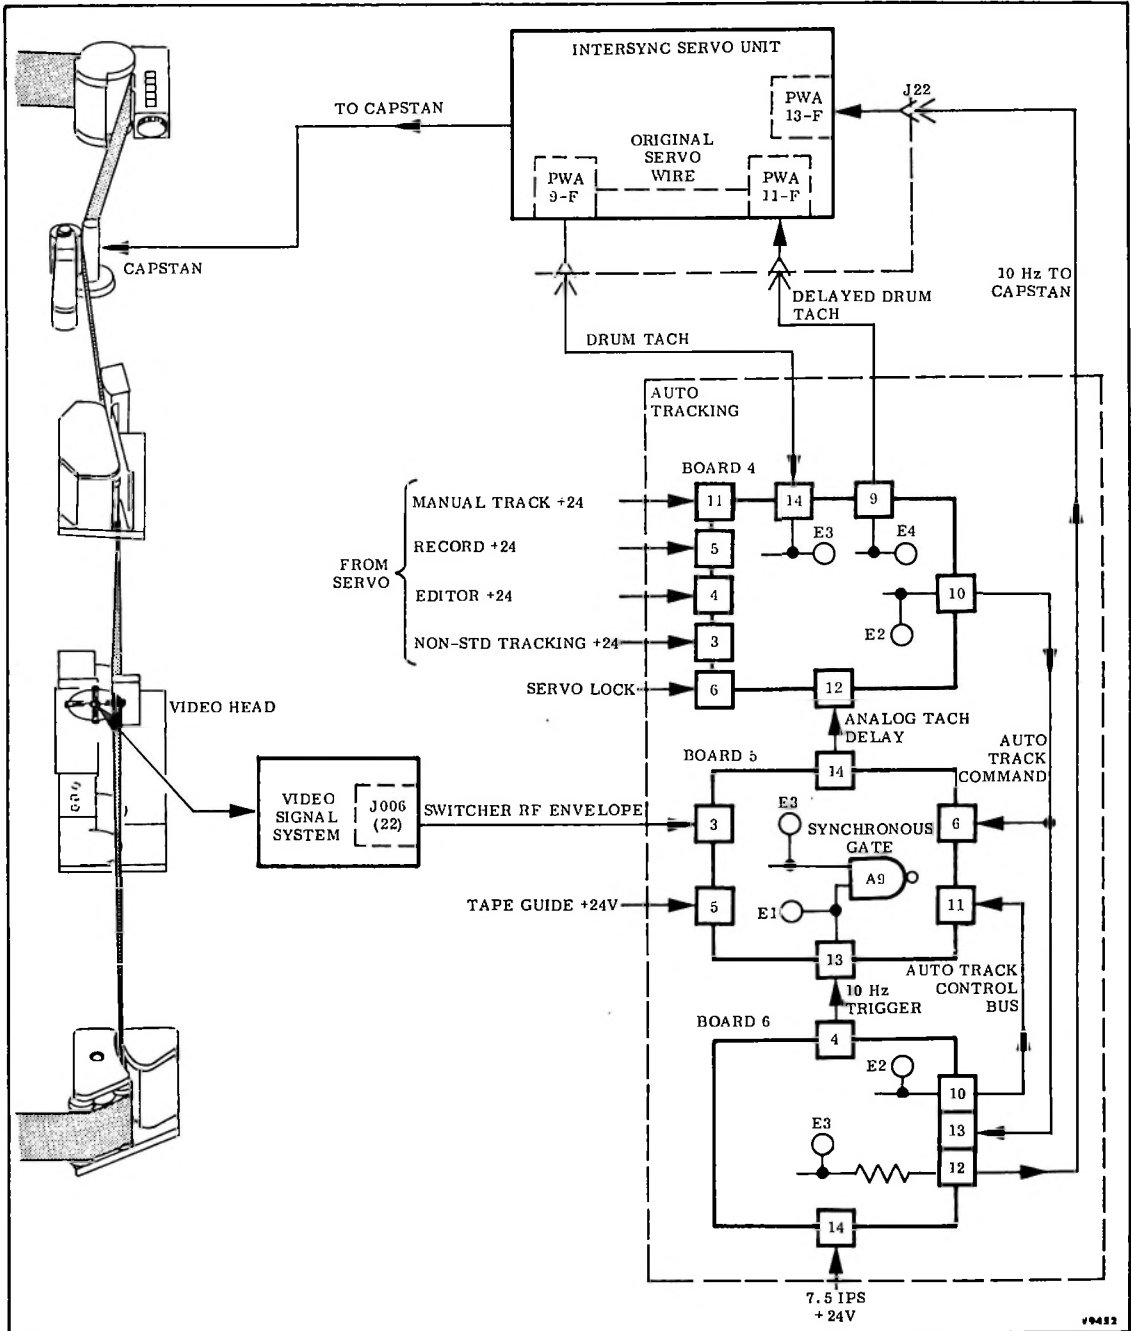
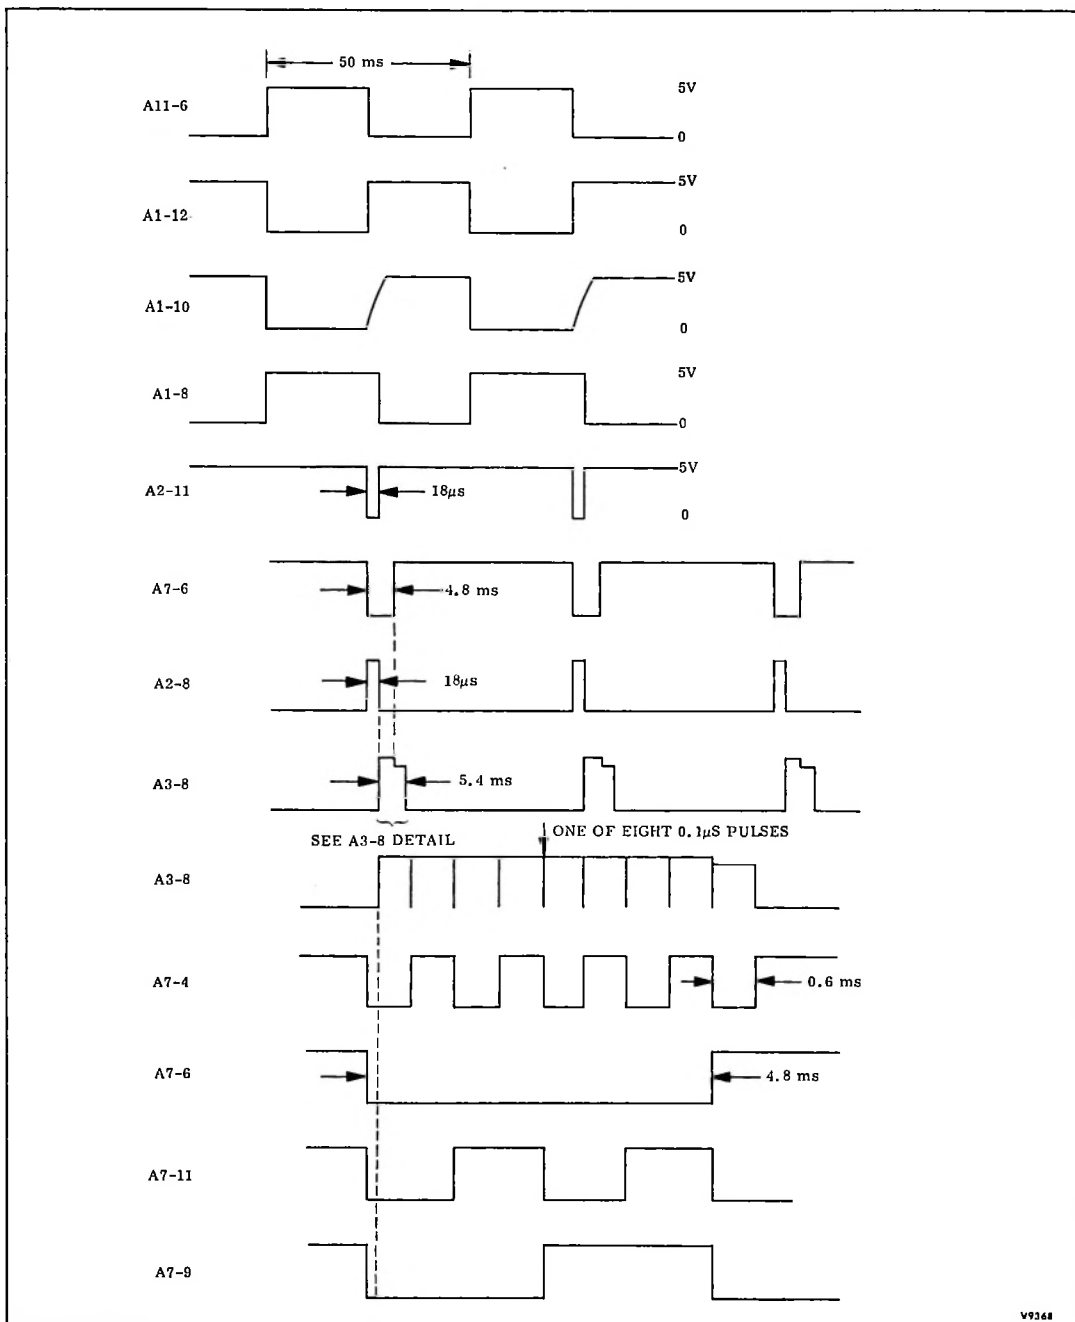

Figure 4-1. Auto Tracking Overall Functional Block Diagram
Figure 4-3. Phase Shifter 20-Microsecond Waveforms
4-3 The auto tracking unit consists of three printed wiring assemblies (PWA), which are: (1) auto tracking oscillator and control (PWA 6); (2) auto tracking sweep generator and control (PWA 5); and (3) auto tracking tach delay and control (PWA 4); and associated components. Figure 4-1 depicts an overall functional block diagram of the auto tracking unit.
components. The phase shifter circuit provides a 10-Hz squarewave which is delayed 4.8 milliseconds with respect to the 10-Hz trigger to compensate for various delays in the auto tracking servo loop. Inverter A1, C14 and NAND gate A2 comprise an 18-microsecond pulse-forming circuit, which is timed from the negative edge of the 20-Hz squarewave output of A11-6 (see timing diagram Figure 4-3). This 18-microsecond pulse results from the increase in rise time of the positive-going edge of inverter A1-10 squarewave output, which then increases
4-12 When A2-11 output goes "low" (0 V), it clears the divide-by-16 counter A7, causing the output (pin 6) to go low (see timing diagram Figure 4-1). Retriggerable monostable multivibrator A3 is triggered 18 microseconds later by the negative edge of the positive pulse from inverter A2-8. The output from A3-8 is positive (+4 V) for an active period of approximately 0.6 microsecond as determined by C6 and R6. At the end of this active period, A3-8 output returns to 0 V. This negative-going pulse triggers counter A7 and is inverted by A2-3, which in turn retriggers A3-4. This cycle is repeated seven more times until the 4th flip-flop in A7 changes to a high state (+5 V). (See timing diagram Figure 4-3 for waveforms of four series-connected flip-flops within A7.)